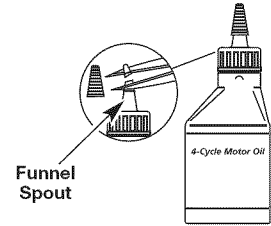

Fig. 5
The unit is supplied with one 3.04 fluid oz. (90 ml.) bottle of SAE 30 SF, SG, SH oil (Fig. 5).
- Unscrew the top of the bottle of oil and remove the paper seal covering the opening. Replace the top. Next, cut the tip off the funnel spout (Fig. 5).